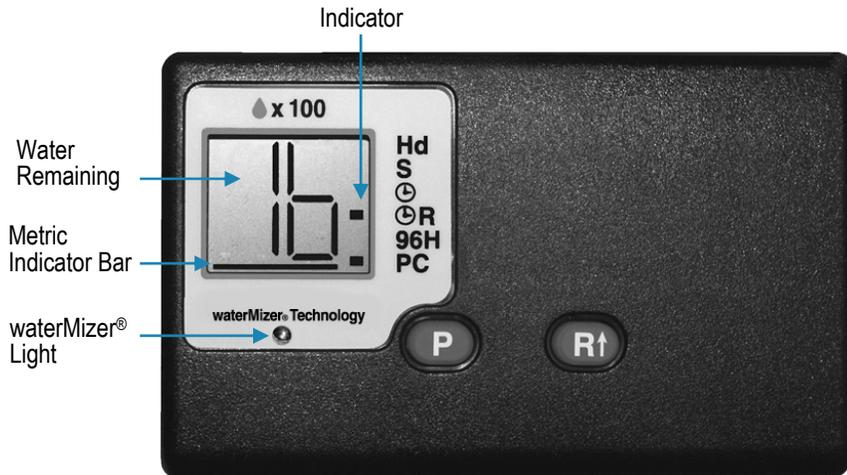
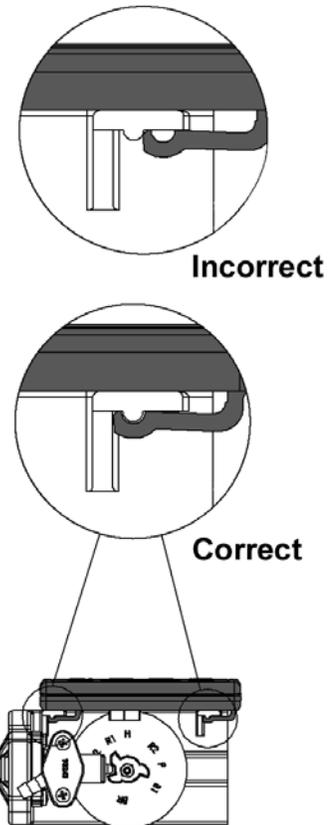

Figure 7: Two-Button Controller
Figure 8: Controller Tab Lock Detail
- D. Open a cold water tap and allow the appliance to flush for 20 minutes or until approximately 72 gallons (270 L) have passed through the appliance. This procedure is required to meet NSF requirements. Verify the waterMizer® light is flashing on the controller, which indicates water flow. See Figure 7.
This appliance features a two-button controller with an LCD display. The controller can be used to view the appliance's status, perform regenerations, and change settings. See Figure 7. The controller must be set up correctly for the appliance to perform properly. **Note:** Ensure that the bottom of the controller is firmly locked onto the four tabs on the top of the drive end cap assembly. See Figure 8.